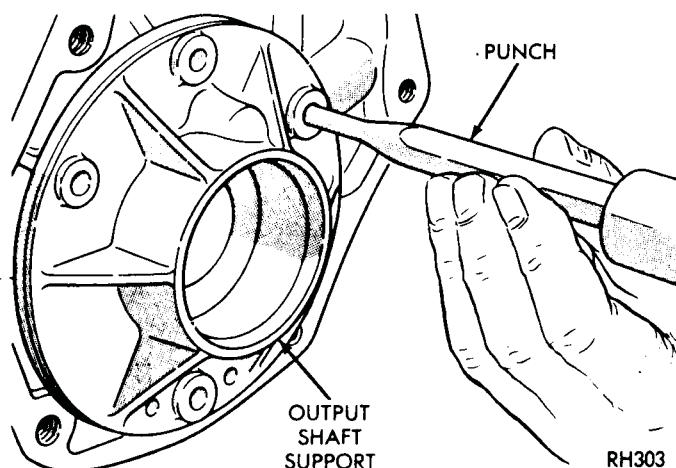

Fig. 39—Remove Overrunning Clutch Cam (A-727)
(1) Remove set screw from the case below clutch cam.
(2) Remove bolts securing output shaft support to rear of transmission case. Insert a punch through bolt holes and drive cam from the case (Fig. 39). Alternate punch from one bolt hole to another so cam will be driven evenly from the case.